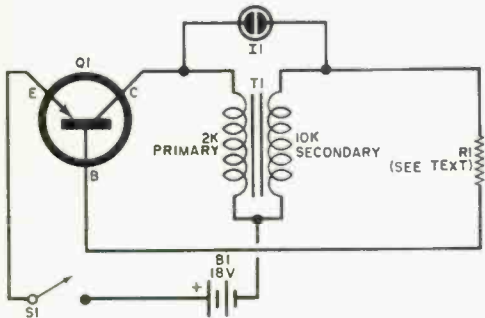

Fig. 2. Reader Gordon Richmond's simple oscillator circuit chops and hikes up the 18-volt d.c. to the more than 60 volts needed to fire the neon lamp.
**Reader's Circuit.** Recognizing the low power requirement and long-operating life of the neon night light, reader Gordon Richmond (1045 Inglewood Ave., West Vancouver, B.C., Canada) decided to build a battery-powered version for camping, fishing and similar outdoor applications. Unfortunately, neon lamps require from 60 to 90 volts for operation, and thus cannot be used in ordinary low-voltage battery applications. To overcome this "high-voltage" requirement, Gordon devised the simple, but effective, night light illustrated in Fig. 2. A transistor ( $Q1$ ) is employed in a simple tickler-feedback type of circuit, and the stepped-up a.c. voltage developed by oscillator action powers the neon lamp ( $I1$ ).